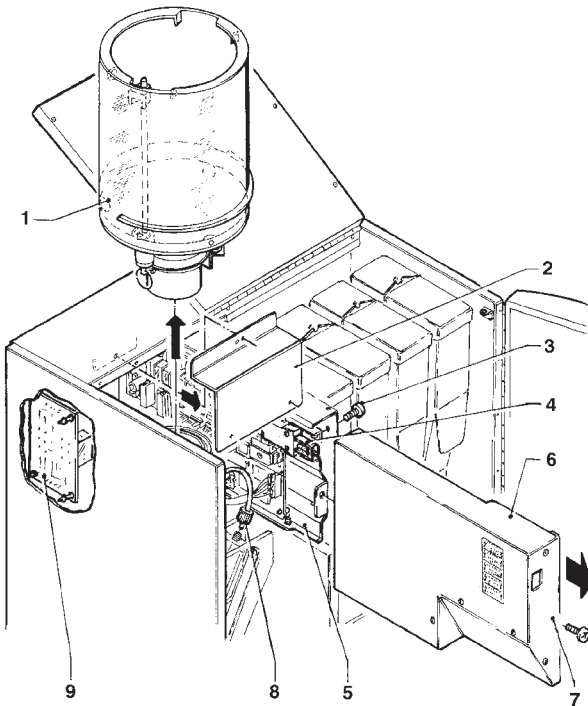

Fig. 22
- remove the brewing piston connection tube (see Fig. 22);